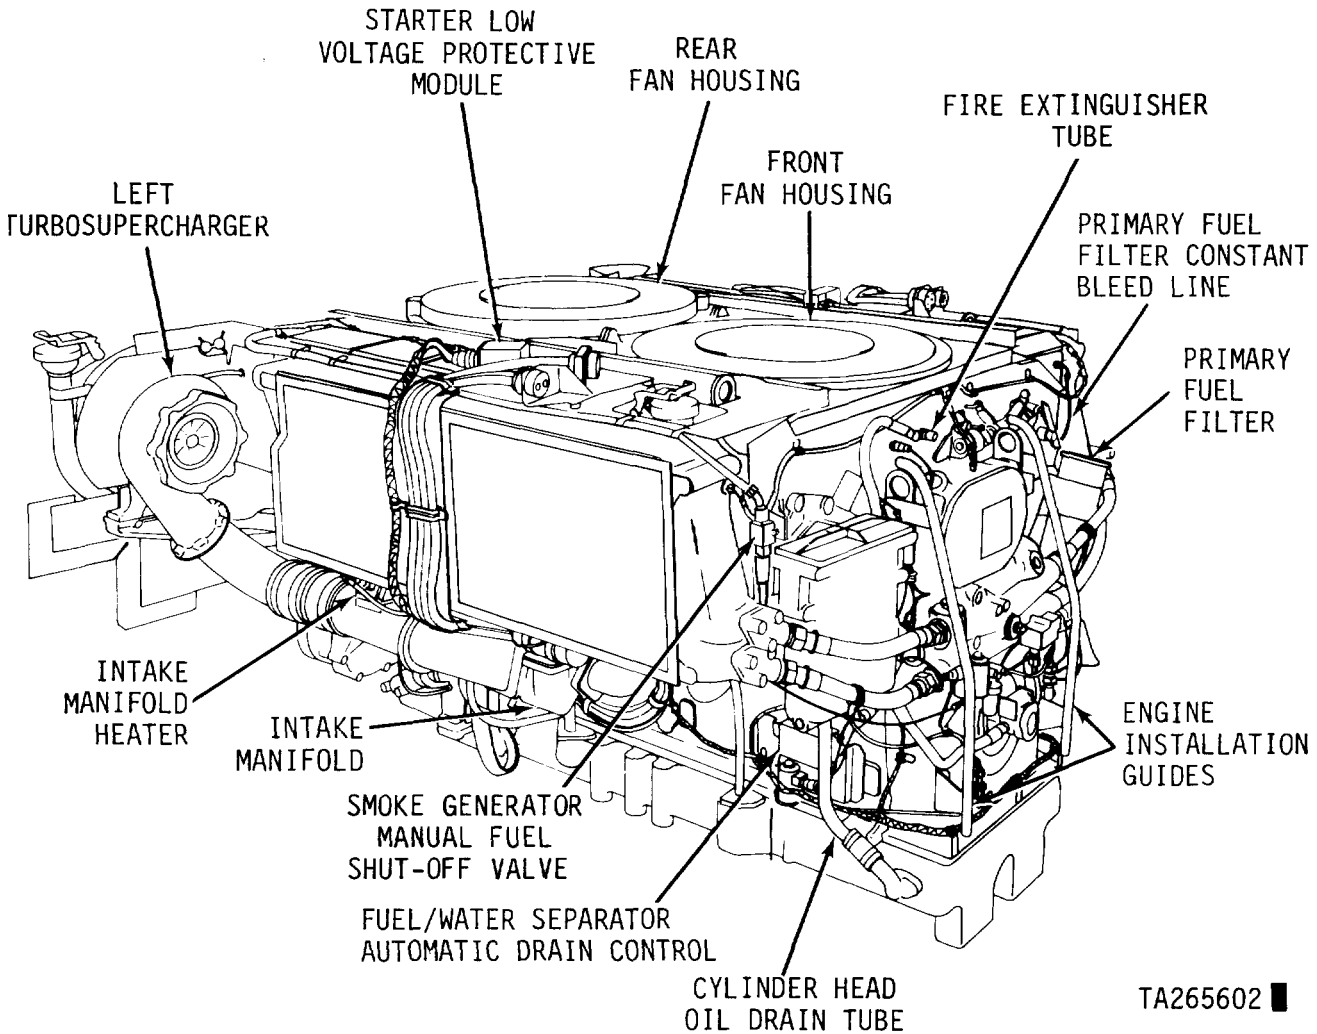

Figure 1-2. AVDS-1790-2C engine assembly left front view,
e. The engines have a 24-volt solenoid operated starter (fig. 1-2). A low voltage sensing module prevents starter activation with improperly charged batteries.
i. The engine primary and fuel/water separator type secondary fuel filters (figs. 1-2 and 1-3) both